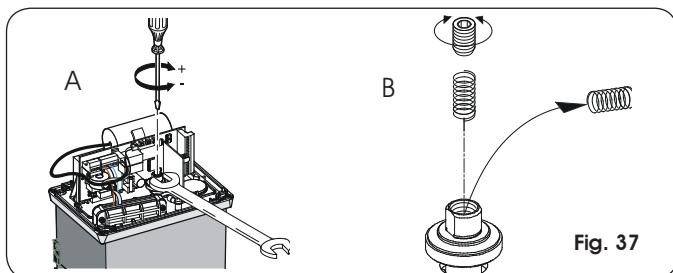

Fig. 37
2. Keep the motor shaft locked with a wrench and turn the clutch adjustment screw with an Allen wrench or screwdriver as shown in Fig. 37 Ref. A.
- ➔ **The operator is supplied as standard with a clutch adjustment spring for gates up to 2200 lbs. For heavier gates, use the supplied alternative spring. For spring replacement instructions, see Fig. 37 Ref. B.**